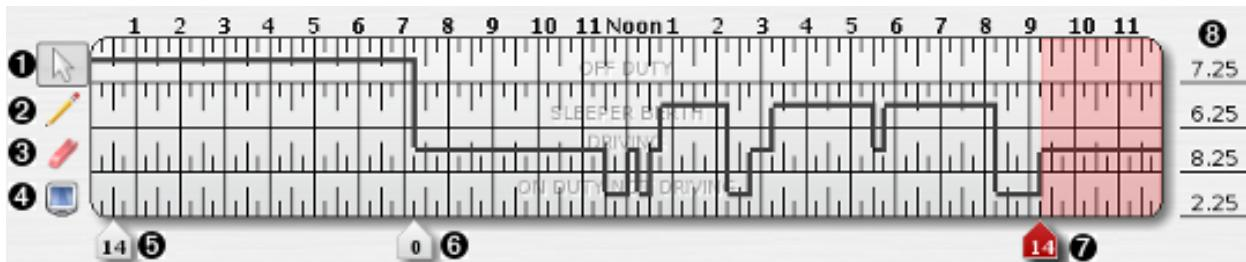

Figure 5.38. Log Graph
The log graph section of the driver's log screen will be the section that most drivers are already familiar with because of its similarity to the log graph on a standard paper log. However the trucklogger log graph has some powerful editing modes (Selection, Insert, Delete). For more information about each of these modes see Section 5.3.1, “Log Graph (Selection Mode)”, Section 5.3.2, “Log Graph (Insert Mode)”, and Section 5.3.3, “Log Graph (Delete Mode)”. For a description of each of the elements of the log graph section Figure 5.38, “Log Graph”.
2. Move your mouse pointer over top of the log graph see Figure 5.38, "Log Graph" and then double-click your left mouse button. You must quickly click the mouse button two times in very rapid succession for it to count a a double-click.